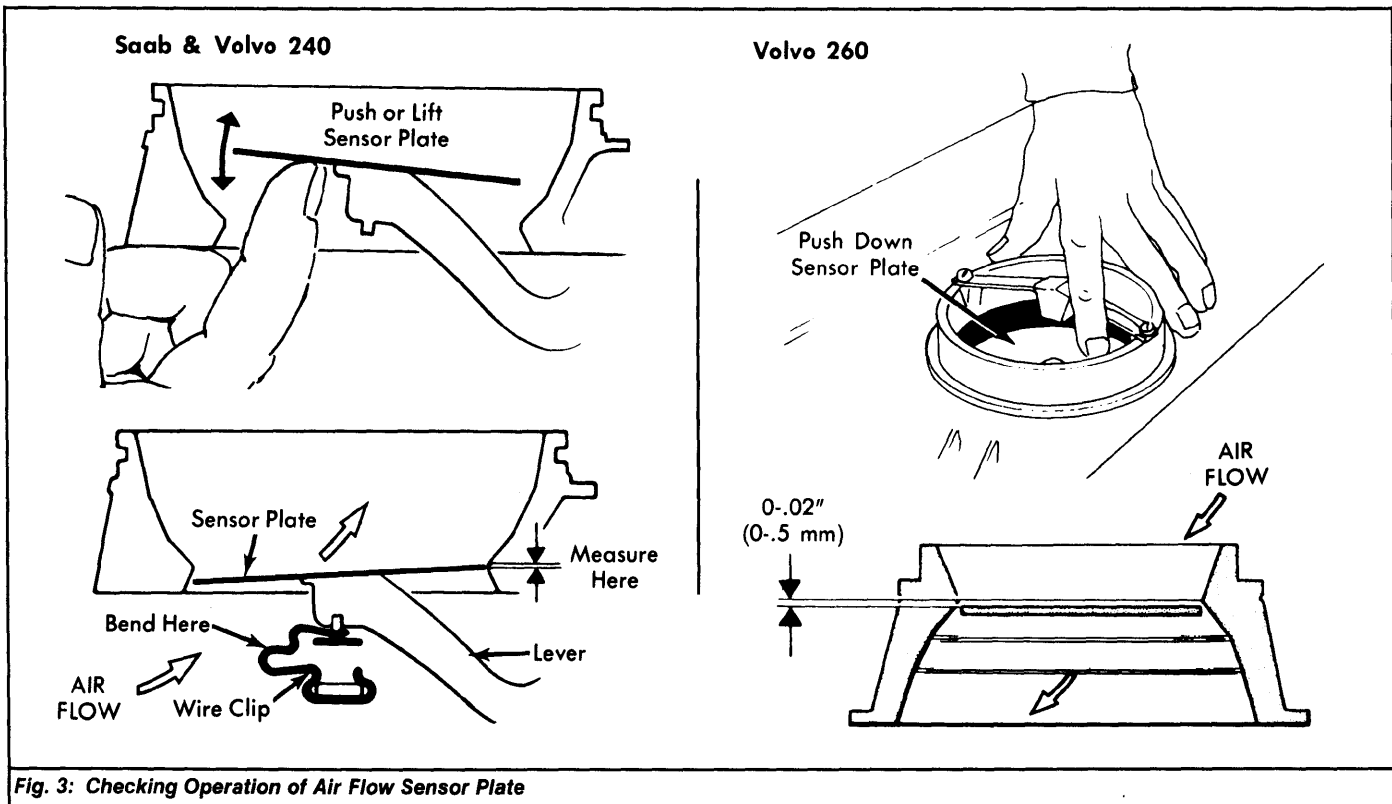

Fig. 3: Checking Operation of Air Flow Sensor Plate
6) On Saab and 240 Series, bend wire clip beneath sensor plate and lever (if necessary). See Fig. 3. On Volvo 260 Series, check that plate stop does not touch plate. Contact pin is adjustable inward using a drift and mallet (tap lightly). To drive pin outward, air sensor must be removed.